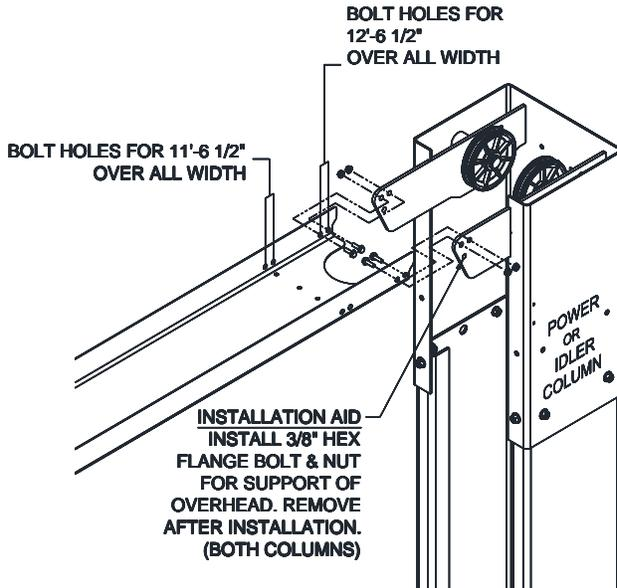

Fig. 8 – Overhead Assembly
- 19) Before raising overhead into position install 4 (2 per column) hex flange bolts and nuts in middle hole of column extension (**see Fig. 8 Installation Aid**) for temporary support of overhead. Lift overhead assembly up into position and install with 8 (4 per column) 3/8-16 x 3/4" lg hex flange bolts and hex flange nuts per side as shown in **Fig. 8**. For the max width position, the outer overhead holes will be used. For the (-6") width, one set of outer overhead holes and one set of